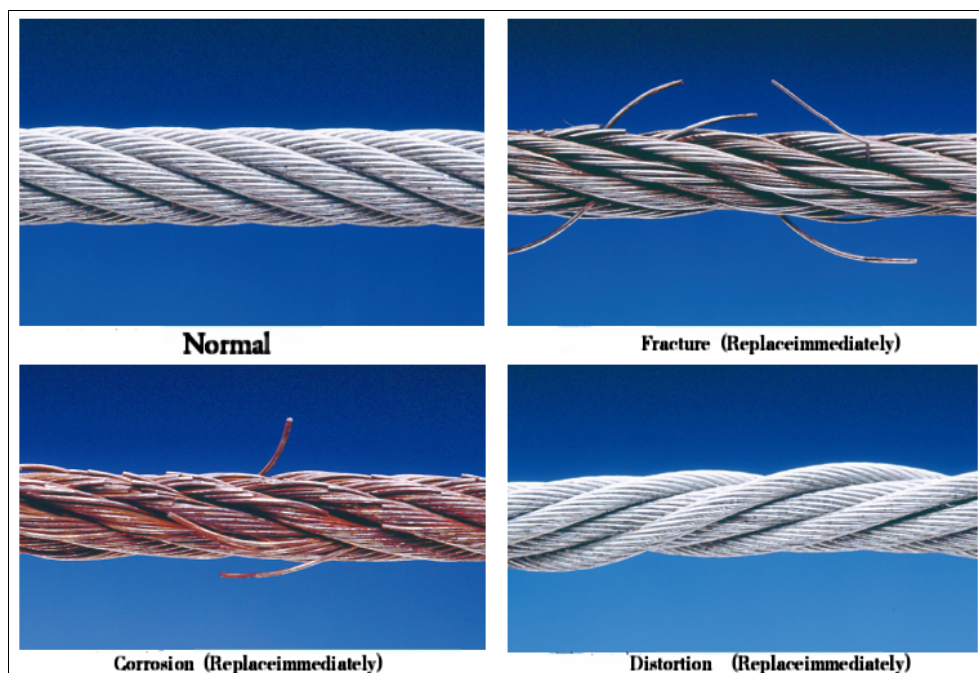

Figure 17 Replacement of steel wire rope
9.6 The operator shall frequently inspect the visible and fixed parts of the steel wire ropes. Replace the steel wire ropes with new ones in a timely manner if any of the following situations occurs (see Figure 17):